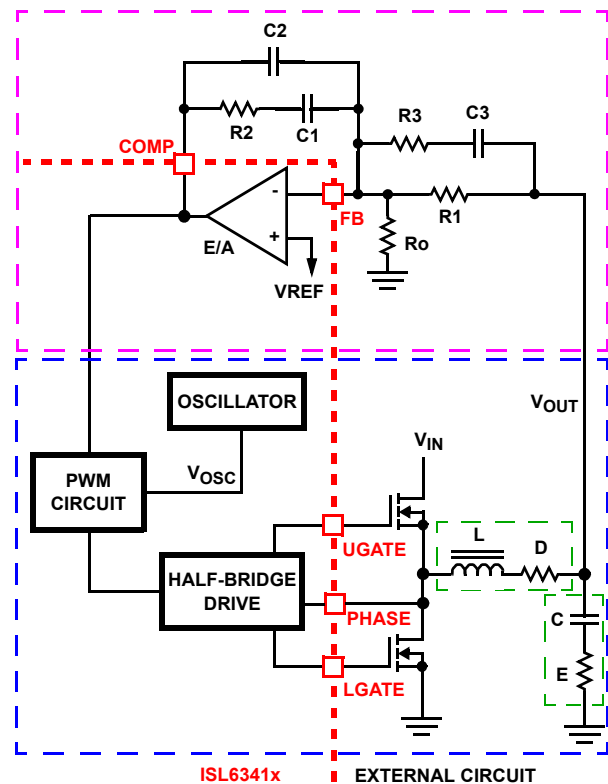

FIGURE 13. VOLTAGE-MODE BUCK CONVERTER COMPENSATION DESIGN
address a broad range of applications, a type-3 feedback network is recommended, as shown in the top part of Figure 13.
Figure 13 also highlights the voltage-mode control loop for a synchronous-rectified buck converter, applicable to the ISL6341x circuit. The output voltage (V_{OUT}) is regulated to the reference voltage, V_{REF} . The error amplifier output ($COMP$ pin voltage) is compared with the oscillator (OSC) modified sawtooth wave to provide a pulse-width modulated wave with an amplitude of V_{IN} at the $PHASE$ node. The PWM wave is smoothed by the output filter (L and C). The output filter capacitor bank's equivalent series resistance is represented by the series resistor E .
(F_0 ; typically 0.1 to 0.3 of f_{SW}) and adequate phase margin (better than 45°). Phase margin is the difference between the closed loop phase at F_{0dB} and 180° . The equations that follow relate the compensation network's poles, zeros and gain to the components (R_1 , R_2 , R_3 , C_1 , C_2 , and C_3) in Figure 13. Use the following guidelines for locating the poles and zeros of the compensation network:
4. Select a value for R_1 ($1k\Omega$ to $5k\Omega$, typically). Calculate the value for R_2 for desired converter bandwidth (F_0). If setting the output voltage via an offset resistor connected to the FB pin (R_0 in Figure 13), the design procedure can be followed as presented in Equation 4.